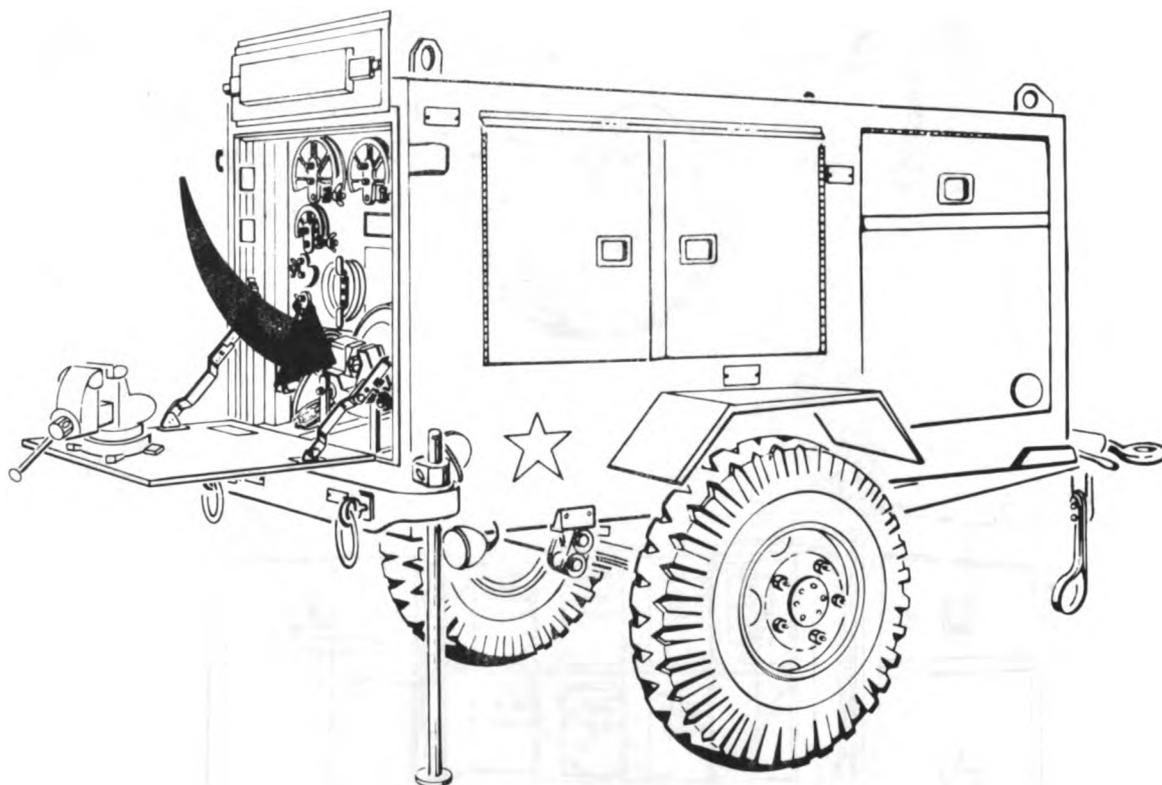
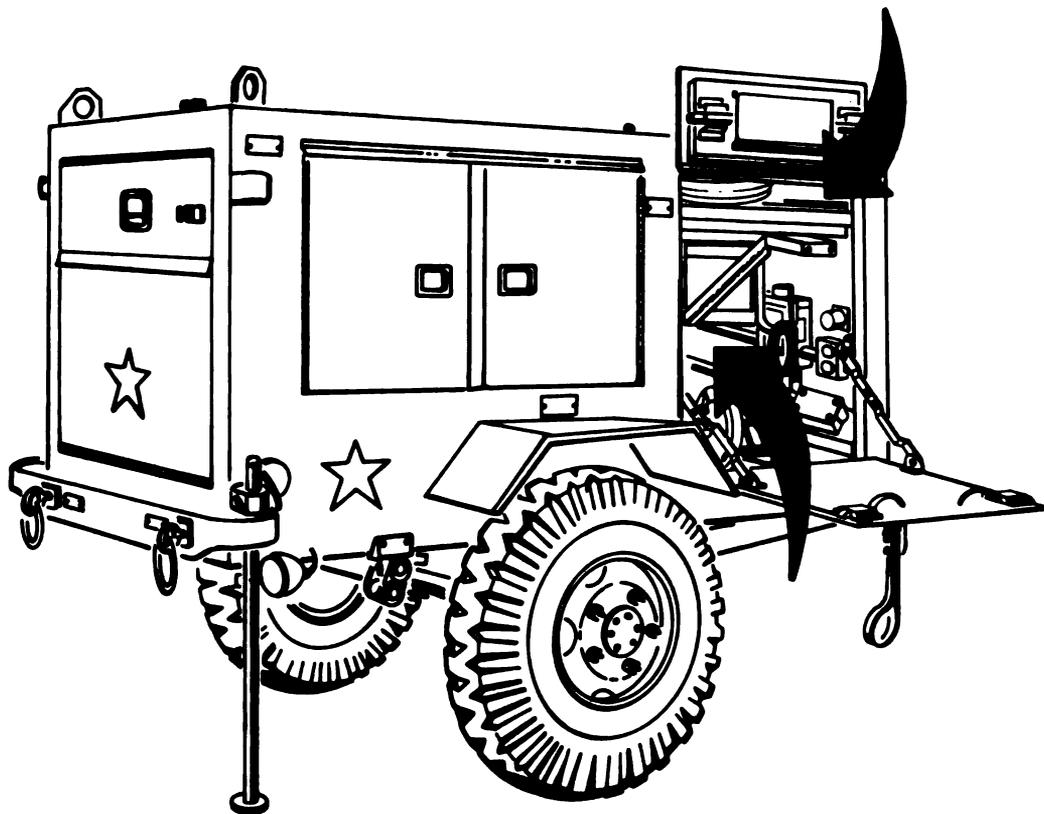
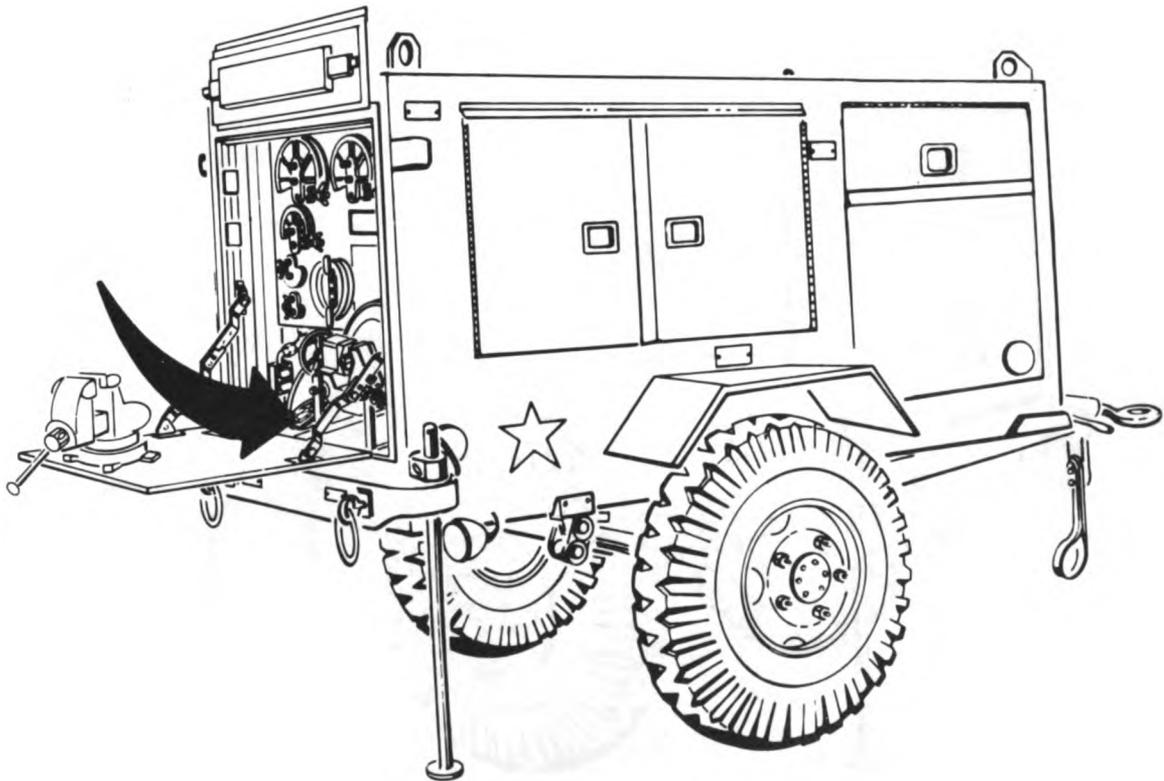

Figure 1-29. Slide Mounted Tool.
Figure 1-31. Hose Storage.
Figure 1-32. Tubing Storage.
- 1-12. Equipment Storage Arrangement.** The hose coupling assembler is slide mounted in the HSTRU (figure 1-29). This allows it to be pulled out and locked in place for use. Small tools, adapters, flare dies, etc. are placed in standard tool boxes and stored on both sides of the trailer (figure 1-30). The area above the storage compartments is a shelf which runs the full length and width of the trailer (figure 1-31). This shelf provides storage for hose supply. Extra lengths of tubing are stored in the bottom of the HSTRU (figure 1-32).